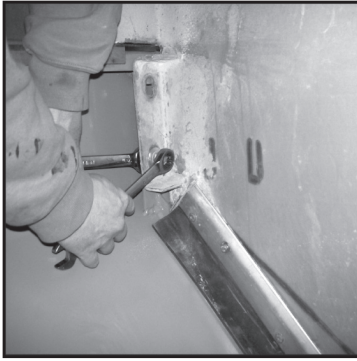

Figure 8
7. Figure 8 - Once both front pads make contact, insert hardware in front mount brackets' lower holes. Shim between main bin and MULTIBIN brackets if distance is larger than 1/8" (.32cm). Tighten hardware per torque recommendations in this manual.